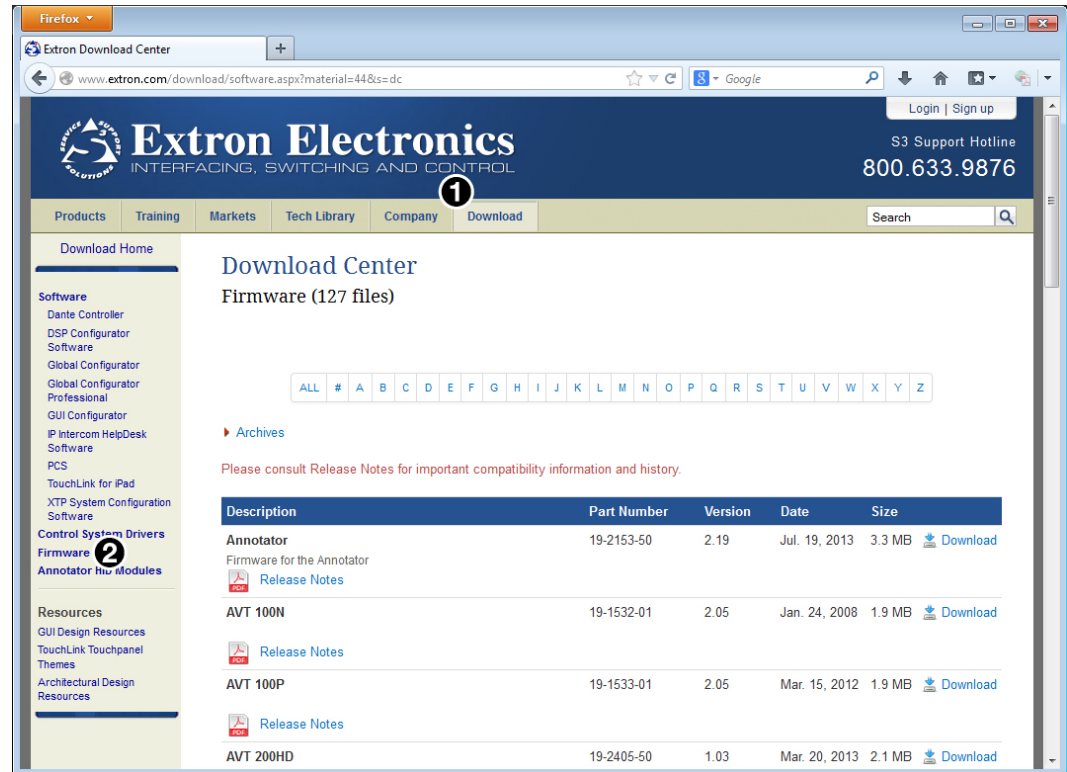

Figure 31. Downloading Firmware from the Extron Website
1. On the Extron website, click the **Download** tab (see figure 31, **1**).